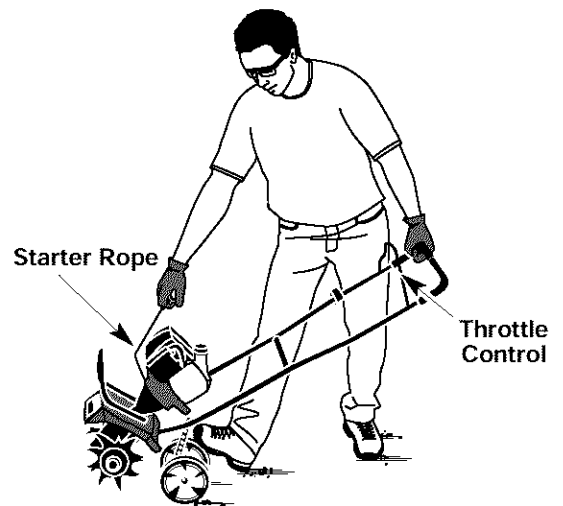

Fig. 12
WARNING: Avoid accidental starting. Make sure you are in the starting position when pulling the starter rope (Fig. 12). To avoid serious injury, the operator and unit must be in a stable position while starting.
4. Hold the handlebar with one hand and grab the starter rope with your other hand. Use your foot to hold down the cultivator (Fig. 12).
5. With the unit in the starting position, **do not squeeze the throttle control** (Fig. 12). Pull the starter rope out a short distance, until you feel some resistance. This is usually around 2-4 inches. Then pull the rope smoothly and briskly. Repeat this 5 times.